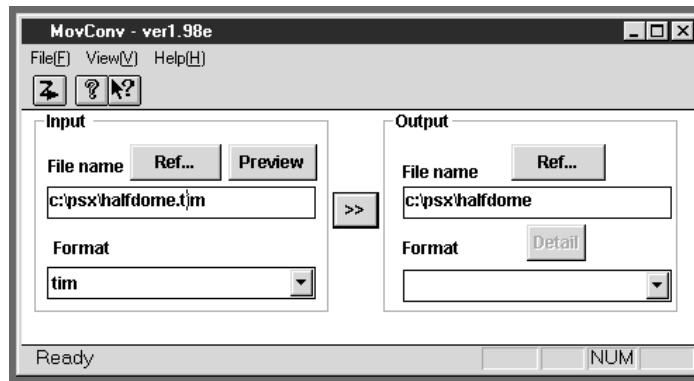

Figure 1 — MovConv Window Example
- 1) Run MOVCONV. Select your source image by clicking on the **Ref...** button in the Input section and then using the file selector. For our example, this will be C:\PSX\HALFDOME.TIM. Note that the output filename is already filled in. You should see a window resembling that shown in *Figure 1*.
- 3) Now we must specify the desired size of the compressed image. Click on the *Details* button in the *Output* section of the main window as seen in Figure 1. This should result in the *MDEC Parameters* dialog being shown, as seen in Figure 1.